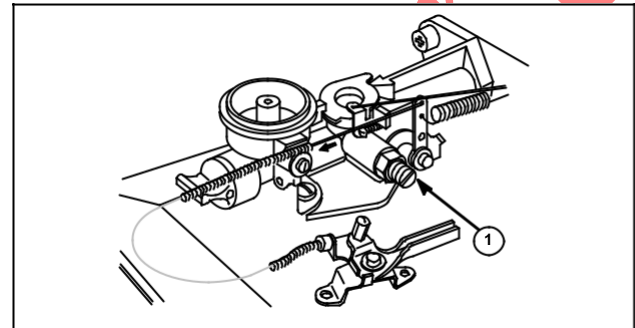

Fig. 15
Remote control assembly – turn screw (1) counter-clockwise to increase speed, Fig. 15.